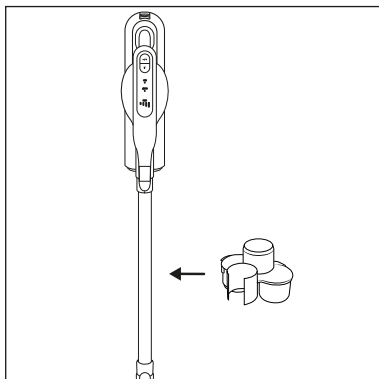

Fig. 16
- ◆ Attach the accessories holder **17** to the suction pipe **24** (see Figure 16).